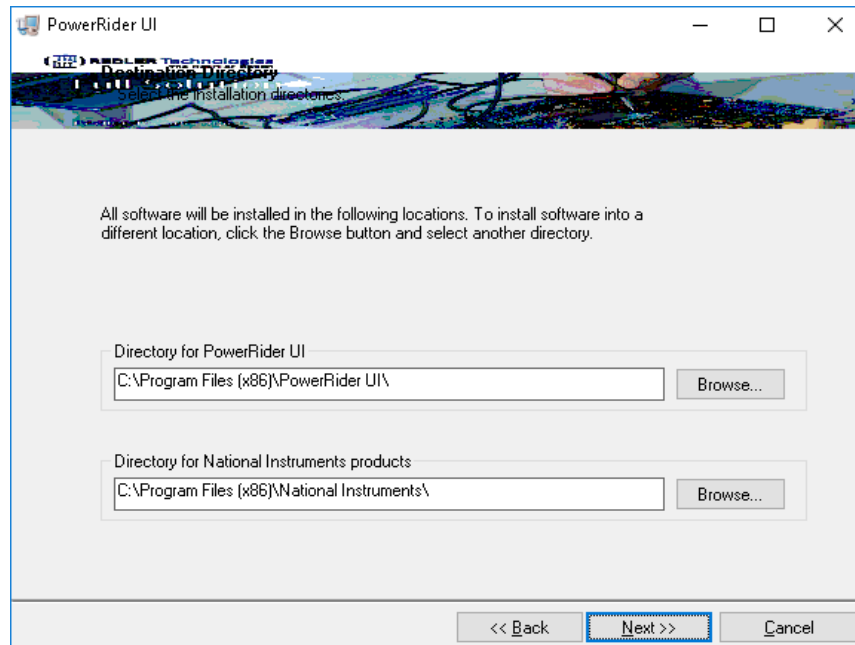

Figure 5 Destination Directory window
1.1.8 The figure bellow can be different between computers, depends of the National Instrument program which are installed in your PC, press Next (Figure 5).